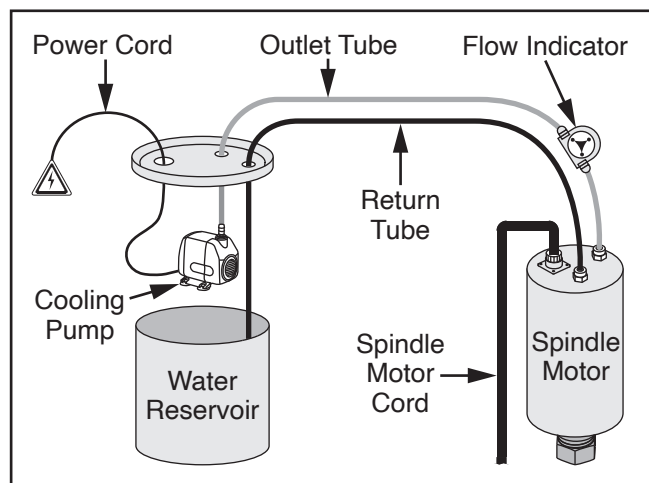

Figure 6. Location of cooling system connections.
5. Insert removed end of return tube, cooling pump power cord, and cooling pump outlet tube through holes in water reservoir lid (see **Figure 6**).
6. Insert blue outlet tube from cooling pump into open push-to-connect fitting on flow indicator (see **Figure 6**).